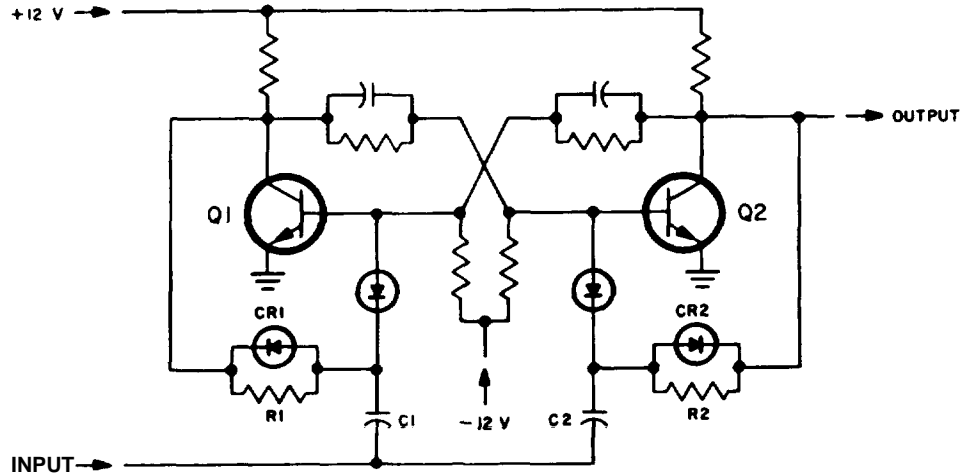

Figure 4-11. Typical Scaler Flip-Flop, Simplified Schematic Diagram
Each frequency divider consists of four bi-stable multivibrators (flip-flops) coupled together in such a way so as to produce one output pulse for each ten input pulses. Figure 4-11 shows a typical flip-flop.
c. USEFUL ILLUSTRATIONS. — Illustrations useful in maintaining this functional section are: figures 4-11, 4-12, 4-13, 4-14, 4-15, 5-40, and 5-67.